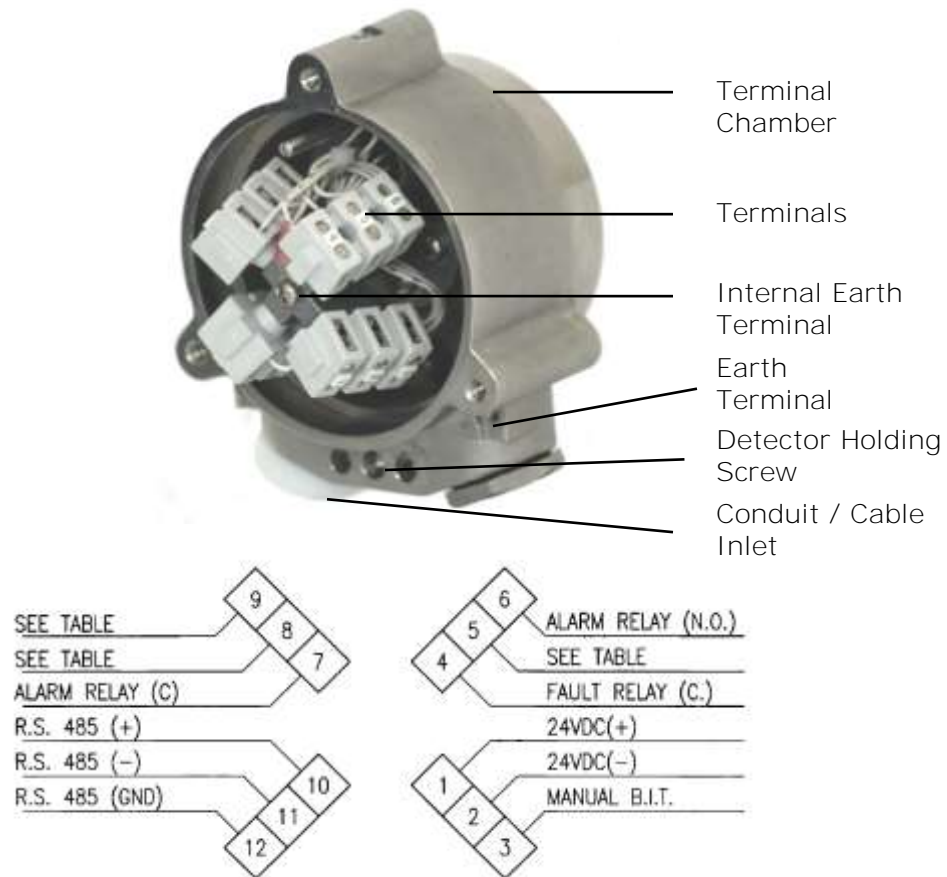

Figure 7: Detector with Cover Removed
This section describes how to connect the electric cabling to the detector (Figure 7).
- 5 Connect the wires to the required terminals on the Terminal Board according to the wiring diagram (Figure 7) and Table 15.
- 8 Check the wires for secure mechanical connection and press them neatly against the terminal to prevent them from interfering while closing the back cover (Figure 7).